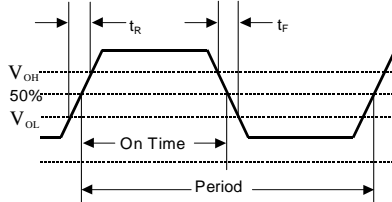
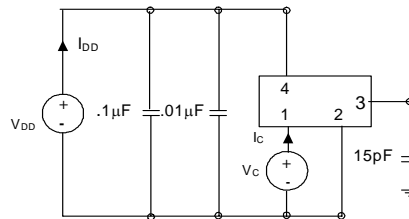

Figure 3. Output Waveform
Figure 4. Typical Output Test Conditions (25±5°C)
2. Figure 3 defines these parameters. Figure 4 illustrates the operating conditions under which these parameters are tested and specified. For $f_O > 90$ MHz, rise and fall time is measured 20 to 80%.